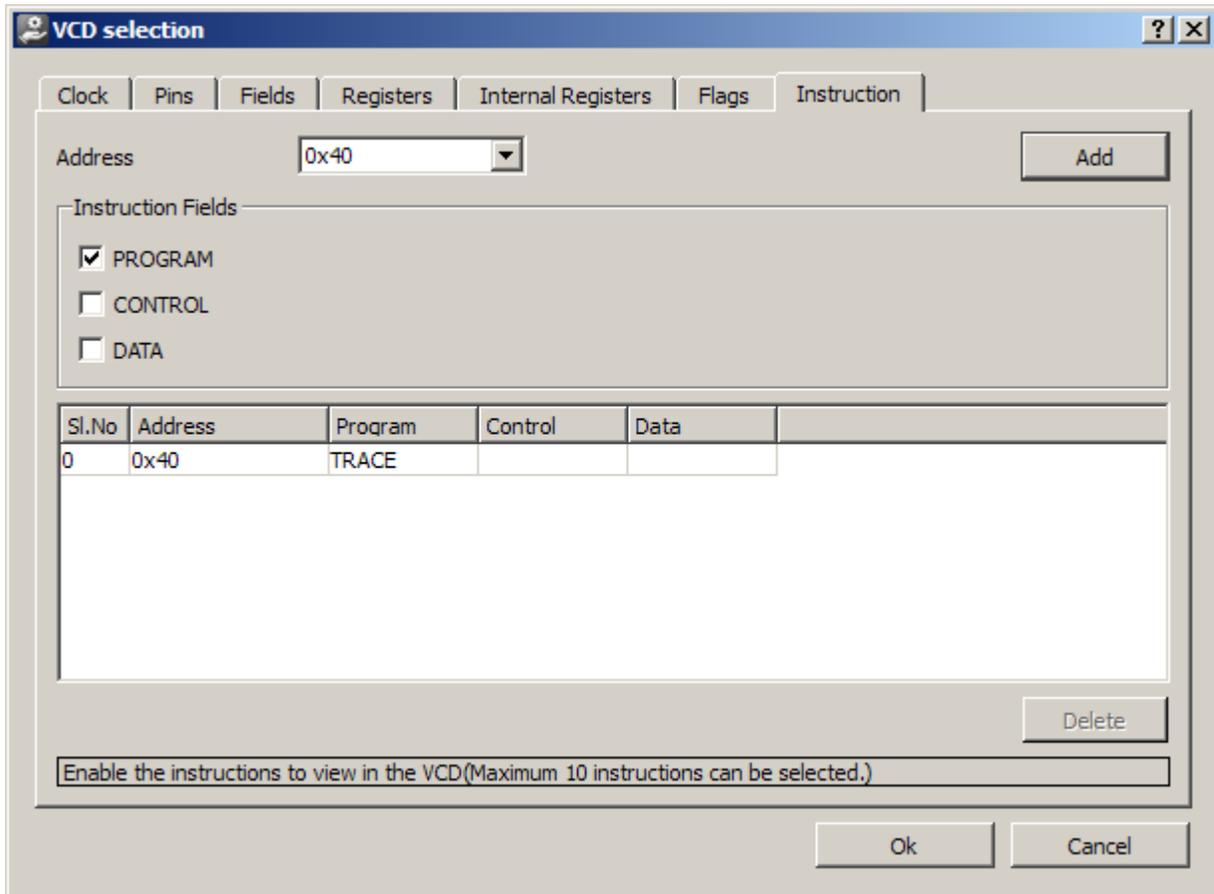

Figure 38. Adding an Instruction Trace to the Waveforms Output by the HET Model
- (ii) Go to the Instructions tab. Select 0x40 in the address drop-down list, check Program in instructions fields, and click add (see Figure 38).
- (iii) Make sure that you see Sl. No 0 populated with address 0x40 (see Figure 38), then click on OK.